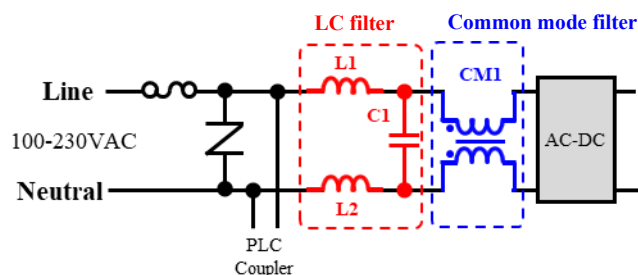

Figure 1-8 Example of inserting noise filters at the input section of an AC-DC power supply circuit
- An example of inserting a noise filter at the input section of the AC-DC power supply circuit is shown in Figure 1-8, and an example of the noise filter circuit constants is shown in Table 1-2.